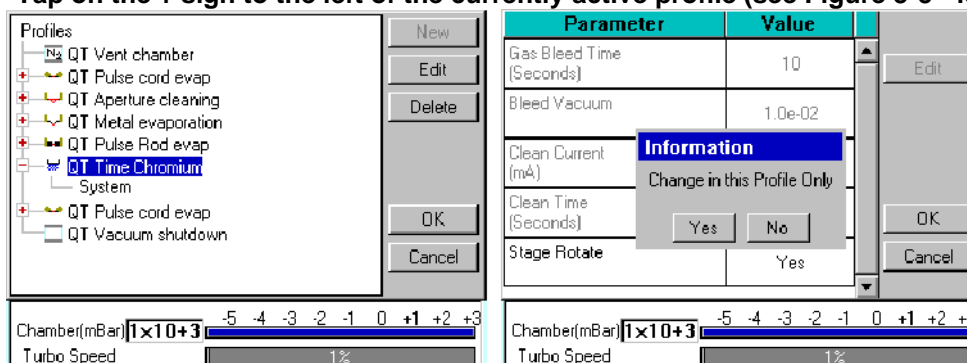

Figure 3-5. Listing system properties for a profile
2. Tap on the + sign to the left of the currently active profile (see Figure 3-5 - left).
3. Tap on *System*. *System Property Editor* is displayed (see Figure 3-5 - right).